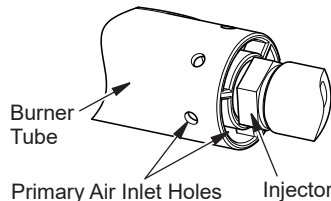

Figure 31 - Burner and Injector Holder
2. Inspect burner, pilot and primary air inlet holes on injector for dust and dirt (see Figure 31).